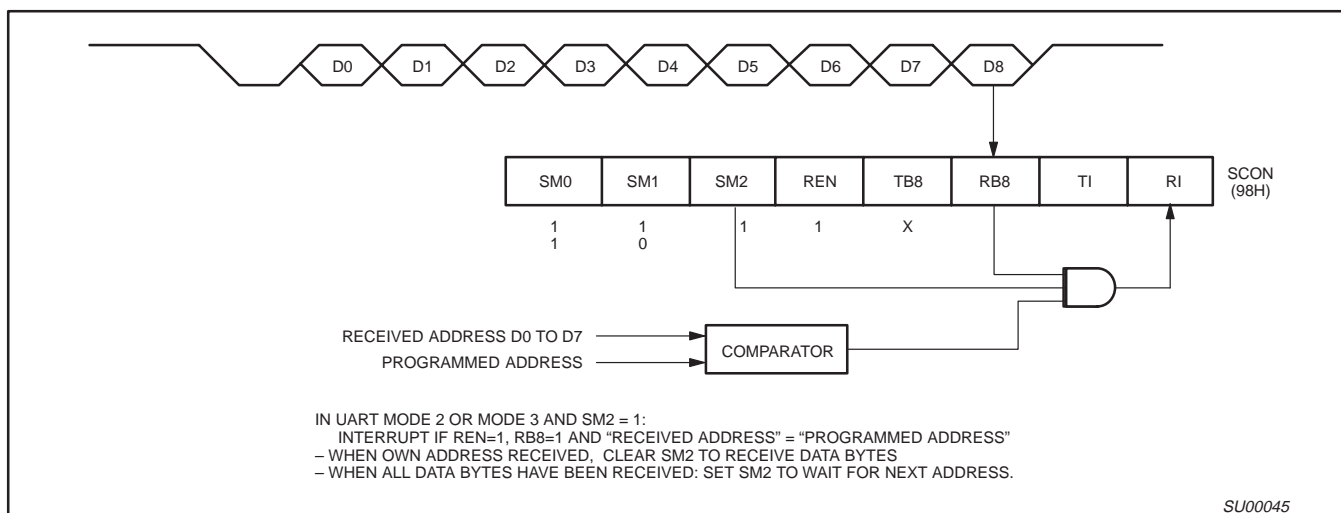

Figure 10. UART Multiprocessor Communication, Automatic Address Recognition
hardware to make the comparisons. This feature saves a great deal of software overhead by eliminating the need for the software to examine every serial address which passes by the serial port. This feature is enabled by setting the SM2 bit in S0CON. In the 9 bit UART modes, mode 2 and mode 3, the Receive Interrupt flag (RI) will be automatically set when the received byte contains either the "Given" address or the "Broadcast" address. The 9 bit mode requires that the 9th information bit is a 1 to indicate that the received information is an address and not data. Automatic address recognition is shown in Figure 10.